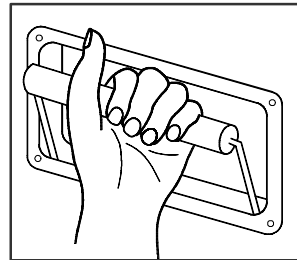

FIGURE 3-2: UNFOLD STEP WITH PALM UP
- 2) Refer to **Figure 3-2**. Grasp the recessed handle (located at left side of step) with palm UP and unfold middle platform section.